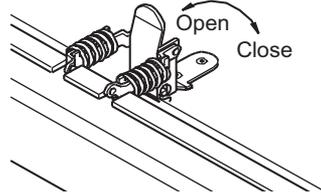

Figure 42 - Opening Door Latches
3. To open glass door, undo latches located on the top and bottom of firebox (see Figure 42). **Note:** Use caution when opening these latches. Carefully open door by swinging it to the left. The glass door is mounted to the firebox with 5 screws.